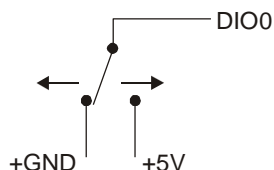

Figure 11. Schematic showing switch detection by digital channel DIO0
When you configure the digital bits for input, you can use the 18200-80 digital I/O terminals to detect the state of any TTL-level input. Refer to the schematic shown in Figure 11. If you set the switch to the +5V input, DIO0 reads *TRUE* (1). If you move the switch to GND, DIO0 reads *FALSE* (0).